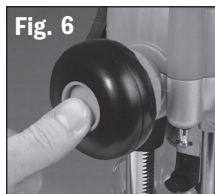

Fig. 6
1. Free plunge depth adjustments can be made with the Plunge Mode Selector button engaged. Press it deep inside the handle until it engages inward **Fig 6**.